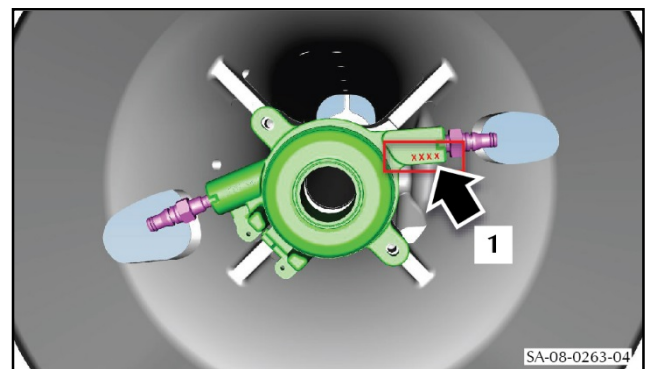

Figure 7
- 10. Record the batch number (1) of the slave cylinder (refer to Figure 7).